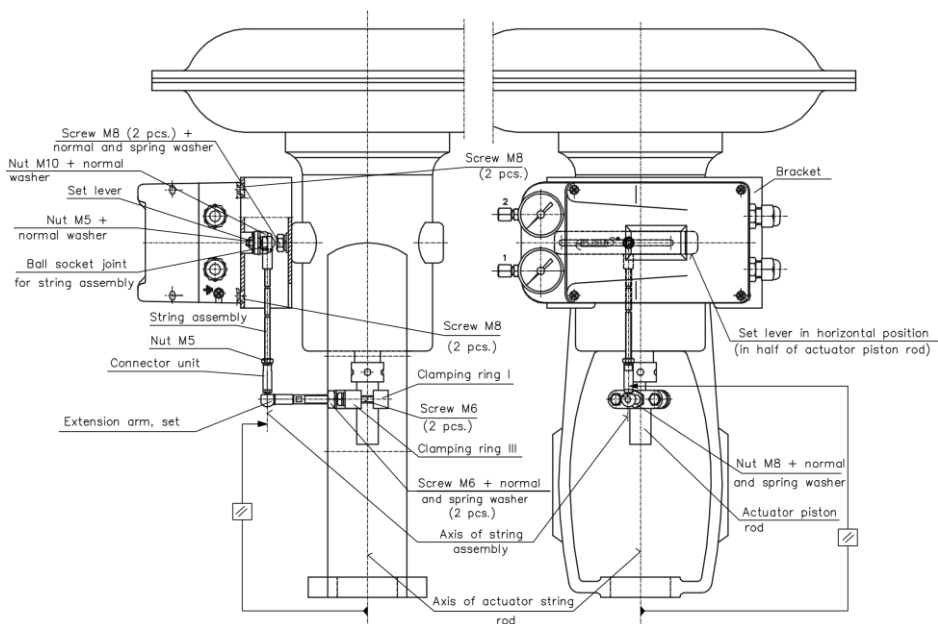

Fig. 5. Positioner APIS-1X0-... with mounting kit APIS-A001 (positioner installed on yoke actuator type 37 or 38 manufactured by Polna S.A.).
- b) Install the ball-and-socket joint on setting lever of the positioner in place corresponding to stroke of the actuator and tighten M5 nut (see Fig. 5 and 6)
- i) Screw extension arm set into clamping ring III; then adjust its length and move whole positioner in relation to the positioner using longitudinal cut-out for fixing screws in a mounting bracket to ensure that lever set (installed later) is parallel to actuator piston rod. If the extension arm is too long it should be cut to the required length (see Fig. 5 and 6).